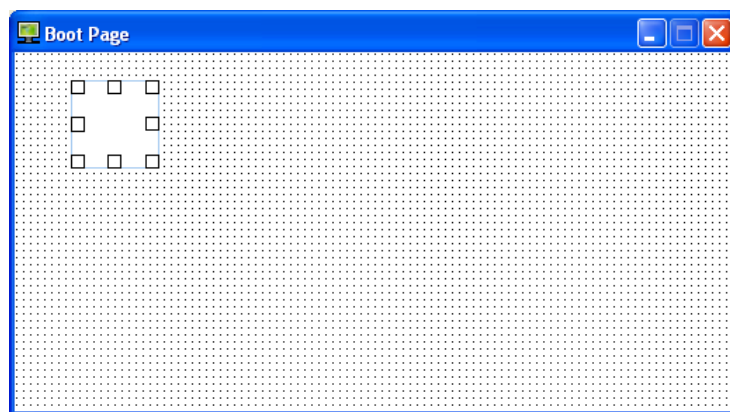

Figure 6-9 Inserting a static image
- Step 2: Only geometric object, static text, and static images can be inserted in the **Boot Page** window. After the users click **Static Bitmap** on the object toolbar, they can click where they want to begin the selection of an area in the **Boot Page** window, hold down the left mouse button, and drag the cross over the area that they want to select. The object will be inserted into the area selected after the users release the left mouse button, as shown in Figure 6-9.